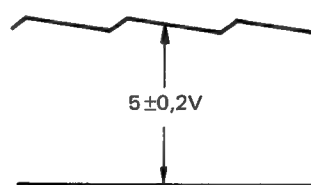

Figure 8-9.
2. Monitoring TP3 with an oscilloscope (internal trigger), adjust R740 so that the requirement given in Figure 8-9 be met.